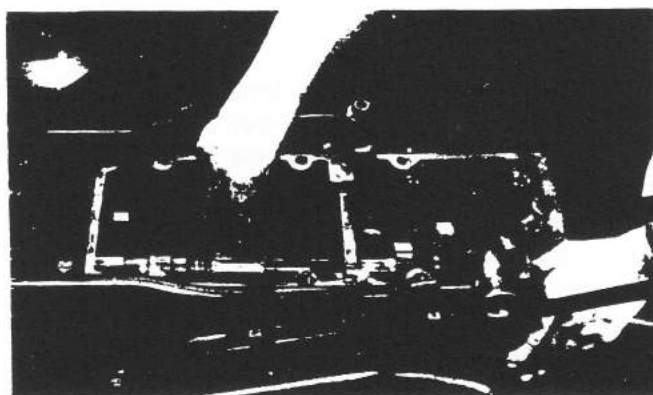

Fig. 6 Removing Circlip
- a. Remove the circlip on the drive shaft at P.T.O. side with a special tool (S-0 SNAP RING PLIERS), push forward the spline joint, and take off the drive shaft by pulling it backward (Figs. 6 and 7).